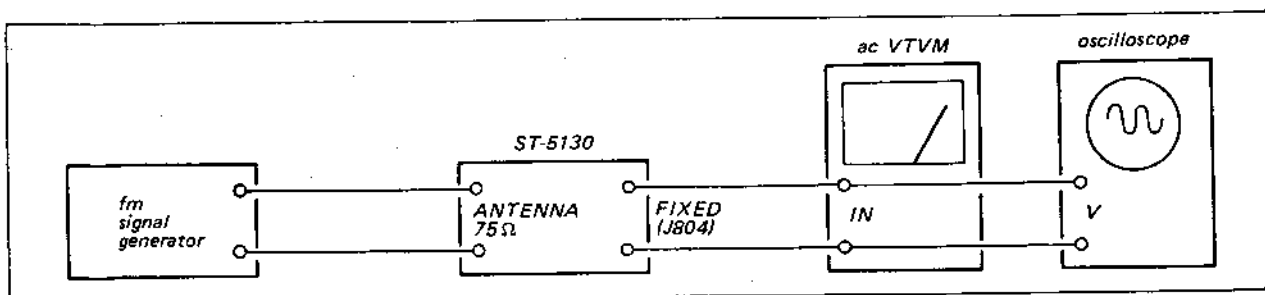

Fig. 3-2. I-f, muting and front-end alignment test setup
1. With the equipment connected as shown in Fig. 3-2, set the SSG's controls as follows:
- With the equipment connected as shown in Fig. 3-2, set the tuner's controls as follows:
1. Connect the equipment as shown in Fig. 3-2.